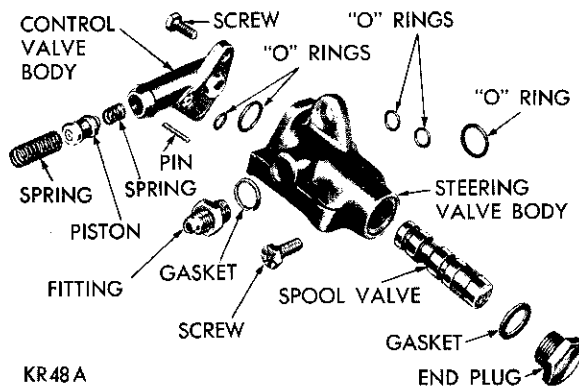

Fig. 22—Steering Valve (Disassembled View)
(1) Remove the two screws attaching the pressure control valve body to the steering valve body and remove the back pressure control valve assembly (Fig. 22).
(2) Compress the pressure control valve spring and remove the retainer pin, spring, pressure control valve piston and back pressure valve cushion spring.
(3) Carefully shake out the steering valve piston. Inspect the valve for nicks, burrs and scores.